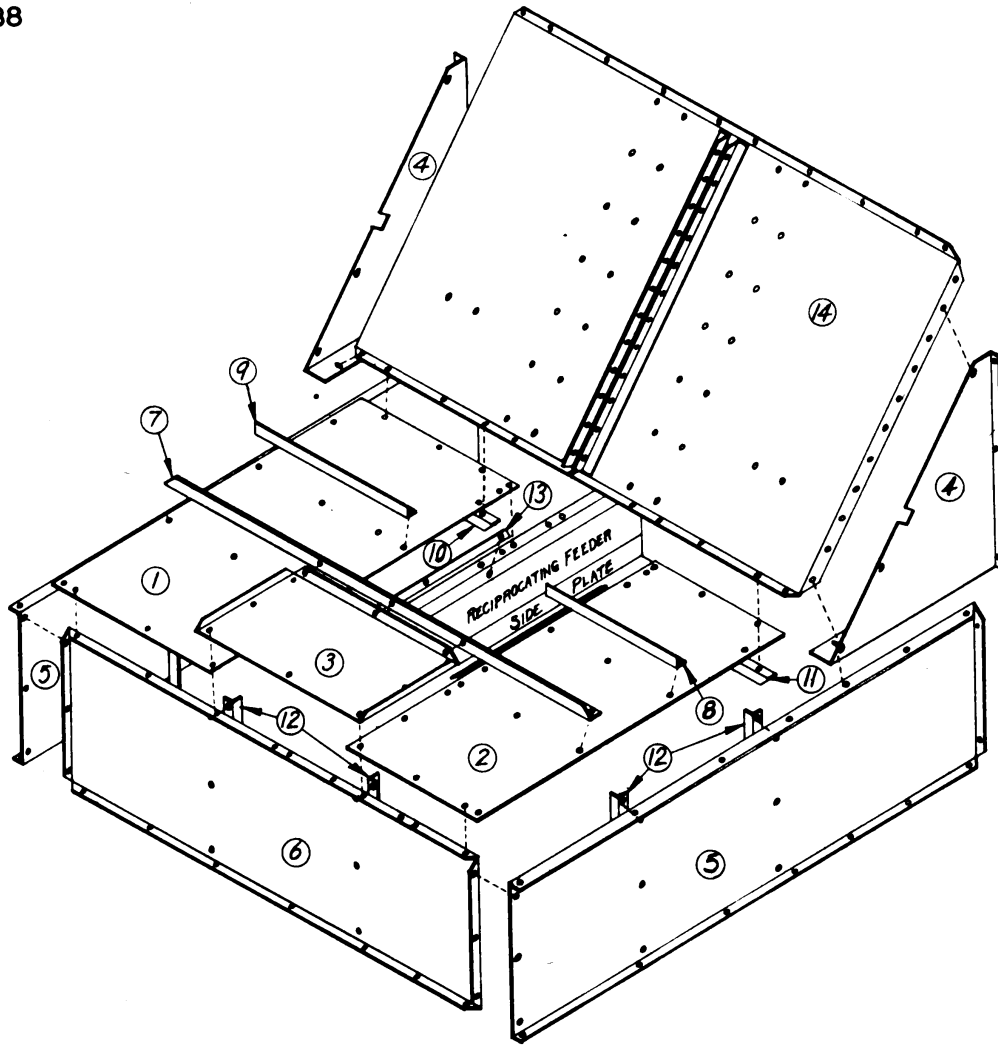

FIG. 52 - ASSEMBLY OF RECIPROCATING FEEDER HOUSING
When the bulkhead setup is used for feeding the reciprocating feeder, a housing is first built around the feeder, Fig. 52, to prevent aggregate from getting into or around the feeder. This housing is erected from sections of steel plate and reinforcing angles bolted together to form a rigid housing. The bill of material for the complete housing is as follows:
| Ref. No. On Fig. 52 | No. Req. | Description |
By referring to dimensions of each piece shown above and to the illustrations in the erection diagram, Fig. 52, the pieces listed can be readily identified.
1. Remove the two bolts that secure the lower flange of the sloping gate section (14) Fig. 52, to the top flange of the feeder sides.
2. Place the housing top plate (1) and (2) in position with the inner edge of each plate lapping the top flanges of the feeder sides. The ends of the top plates (toward the cold elevator) extend under the lower flange of the sloping gate section (14) with the row of holes in the end of each top plate matching holes in the lower flange of the sloping section. Insert bolts through the flanges from above, extending down through holes in ends of plates (1) and (2). Place angles (10) and (11) from below with the holes in the angles fitting over the bolts just inserted. Put nuts and lock washers on the bolts but do not tighten.
3. Place angles (7), (8) and (9) in position and insert all bolts except the last hole in each angle at the end extending toward the outer sides of the housing. These holes must be left free for installing the side plates.
4. Bolt top plate (3), with three flanged sides, in place as shown. The plate flange toward the cold elevator bolts to angle (7) already installed.
5. Bolt the triangular side plates (4) in position as shown by attaching the edge of the longest side of the plate to the flange at the end of the sloping gate section (14). These plates are right and left, with the 4 1/2" flange at the bottom of each plate extending in toward the feeder.
6. Bolt bars (13) to the beveled area of the top flanges of the feeder sides. These bars cover up rows of holes in the beveled portion of the flange preventing leakage of aggregate through the holes. Before bolting the side sections in place, bolt two angles (12) to the inner side of each plate as shown. These angles serve to strengthen the plates only and serve no purpose in bolting the housing together.
7. Bolt the side plates (6) and two side plates (5) in place as shown. The flanged edges of these plates extend outward. The bottom flanges of all three side sections should bear firmly on the feeder cribbing, or upon pieces of timber placed under each flange. Secure the bottom flanges to the timbers with spikes or lagscrews. It is important that the bottom flanges of the side sections be well supported to take the weight of aggregate over the housing.